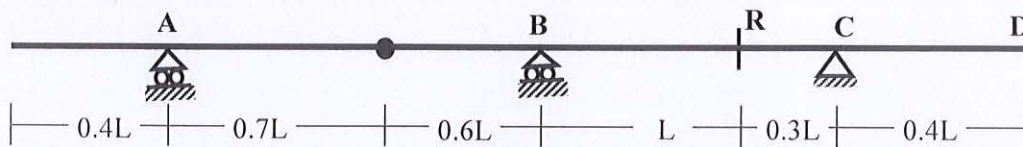

Fig.1
- ii) Bending moment at **B** and **R**, for the Beam in *Fig.1*.